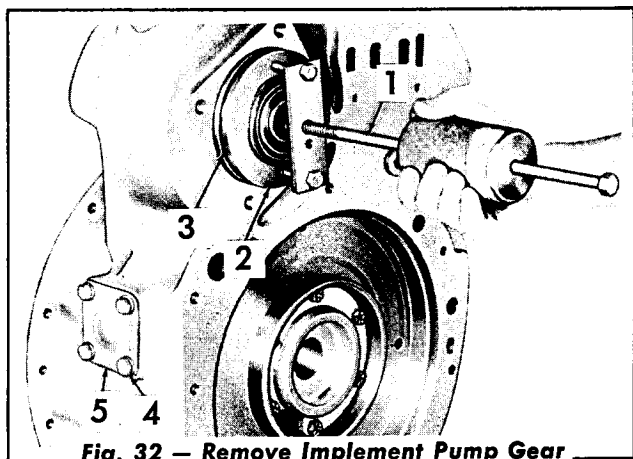

Fig. 32 — Remove Implement Pump Gear
16. Using a slide hammer (Fig. 32), remove as a unit the implement pump bearing retainer, the bearings, and the gear. Remove the seal. Remove the capscrews and lockwashers, and remove the lube valve cover.